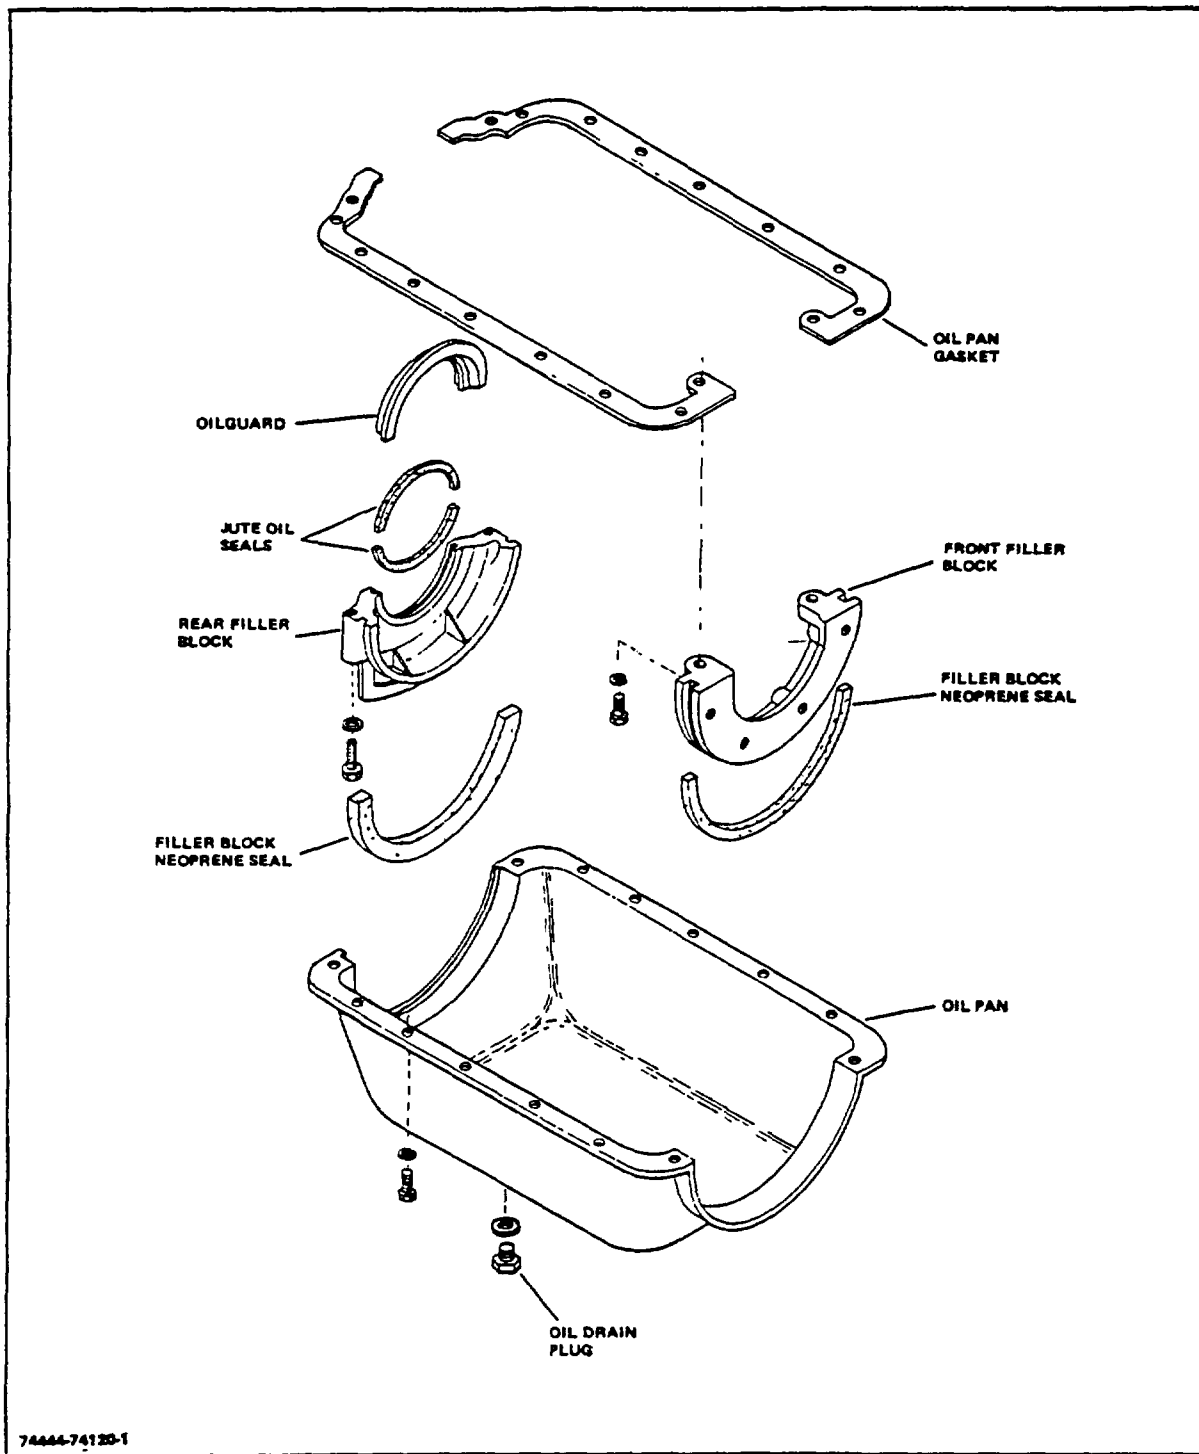

Figure 6-1. Oil Pan Assembly
22. Remove oil pan capscrews and oil pan (Figure 6-1).